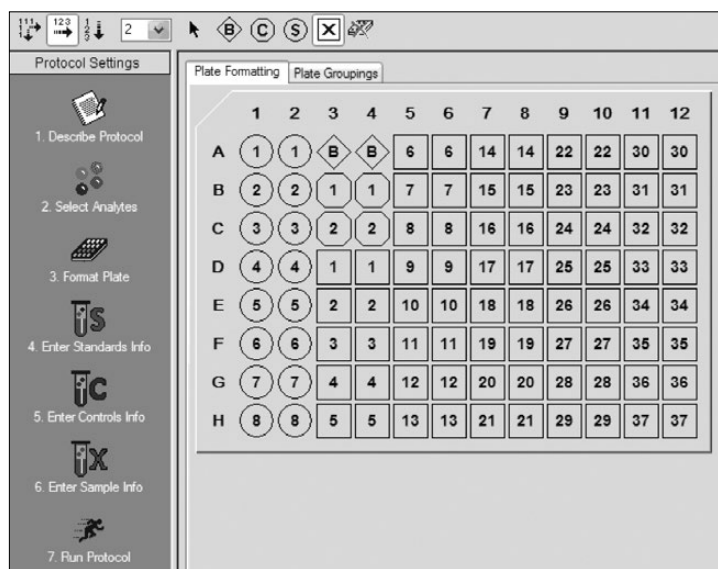

Fig. 4. Plate formatting.
3. Click **Format Plate** and format the plate according to the plate layout created in section 1 (Plan Plate Layout). To modify the plate layout, perform the following steps (see Figure 4).